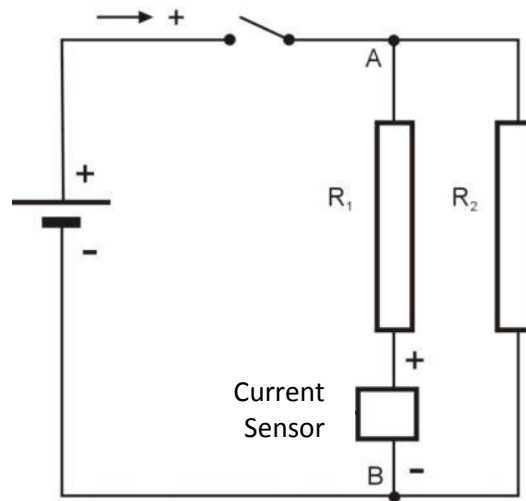

Figure 4
5. Rearrange the circuit to measure the current that flows through resistor  $R_1$ : Remove the Current sensor, connect the negative terminal of the battery directly to point B and connect the Current sensor between resistor  $R_1$  and point B (see Figure 4).